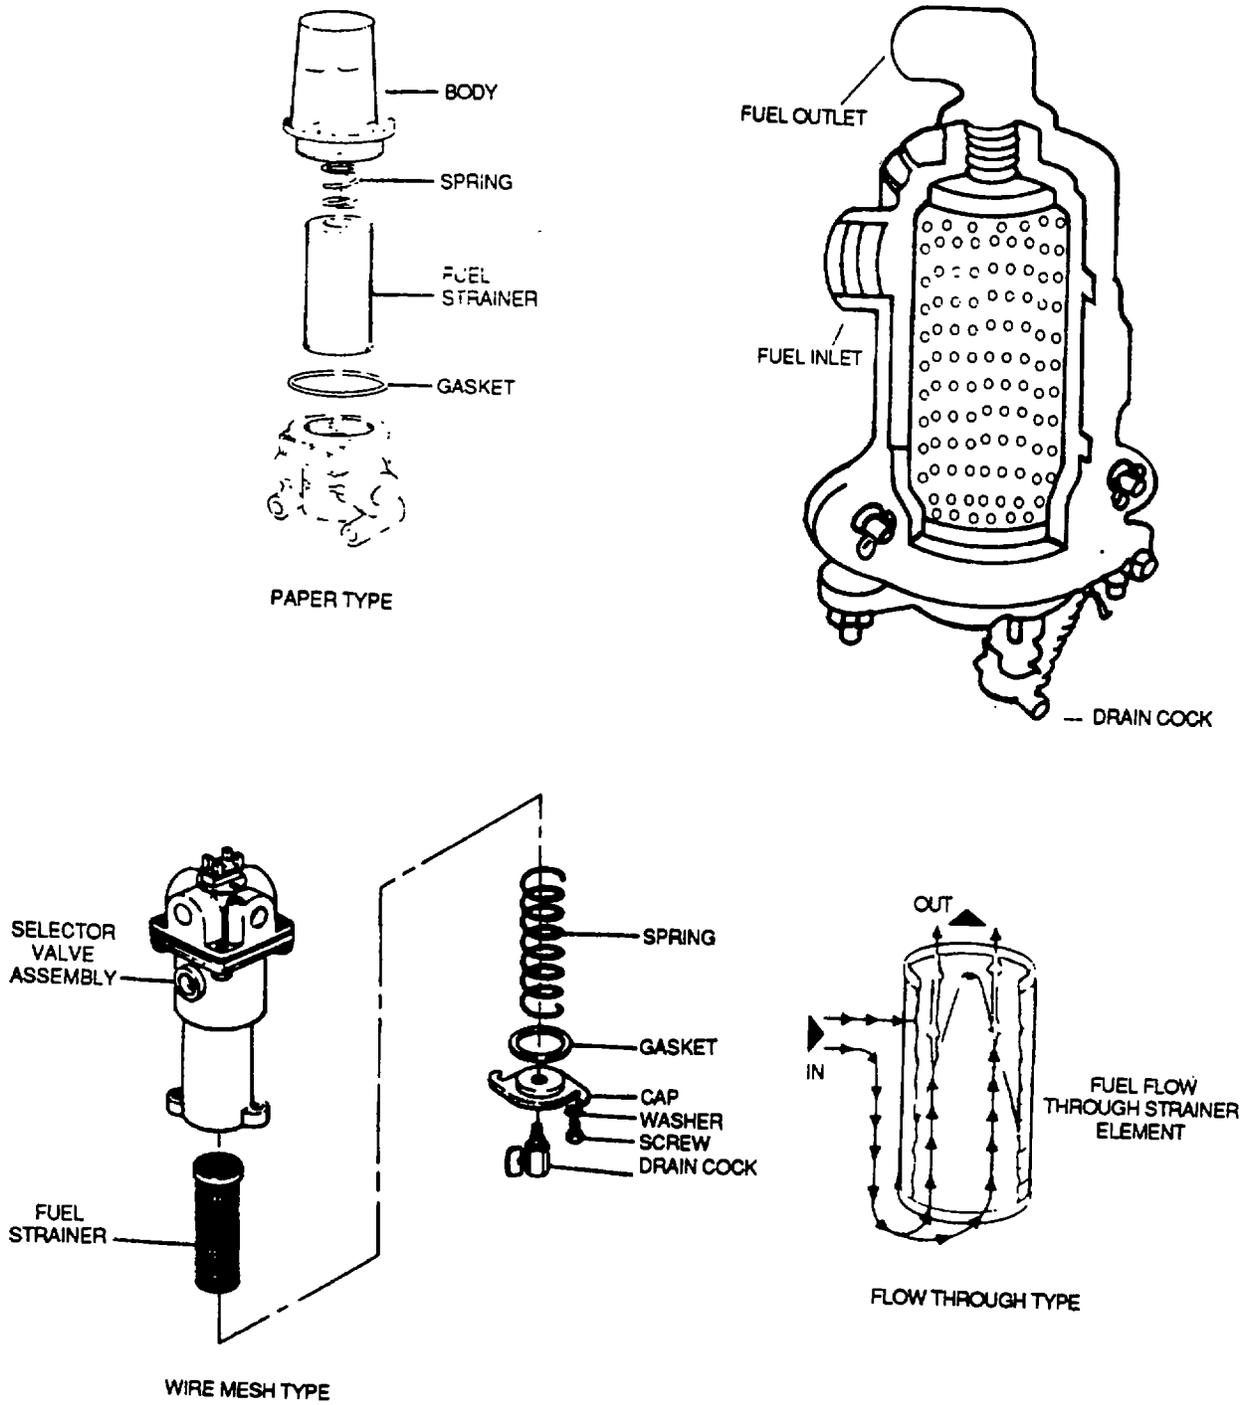

Figure 2-6. Fuel Strainers
(1) *Types.* Fuel tank, fuel sump, and carburetor/fuel metering strainers are the types explained below. Various types are also shown in figure 2-6.